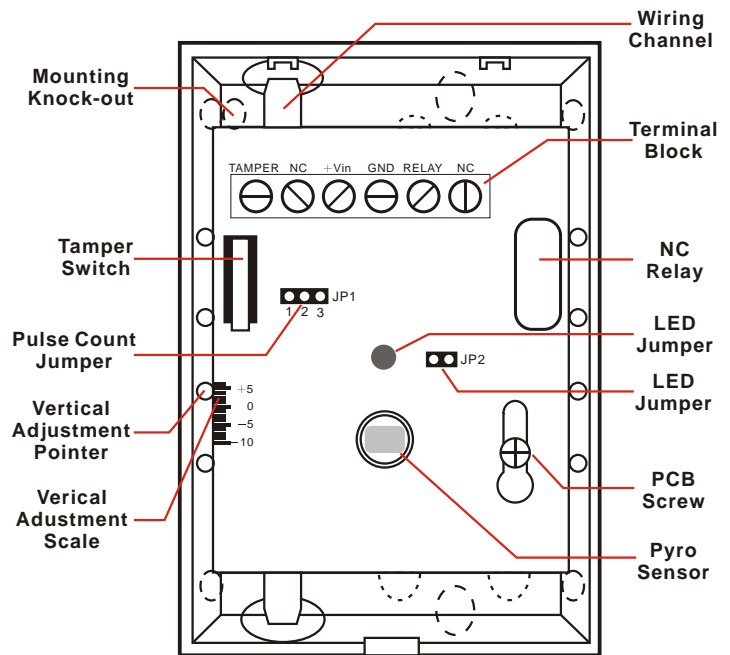

Figure 1 : PCB
3. **Knock out the mounting and wiring holes** as seen in Figure 1.
The detector should be mounted with the terminal block at the top as shown in Figure 1.